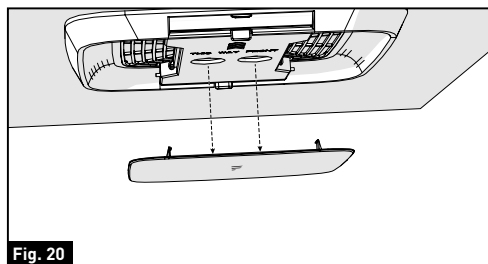

Fig. 20
1. Remove the decoration plate from the air conditioning system by pushing the side tabs to release. (Fig. 20)